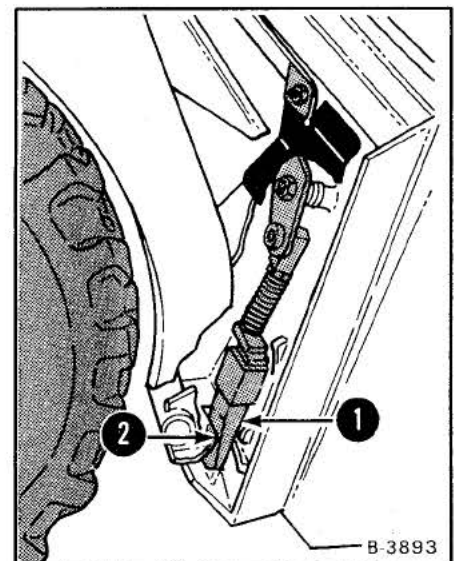

Fig. 28 Locking Wedges
5. Check that the wedges (Fig. 28, Item 1) extend through the holes (Fig. 28, Item 2) in the attachment.